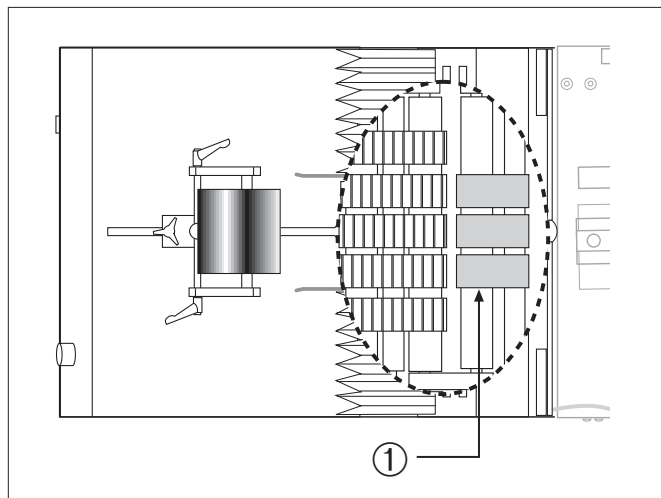

Figure 35. Clean the Discharge Belts
To clean the discharge belts (Figure 35, ①),